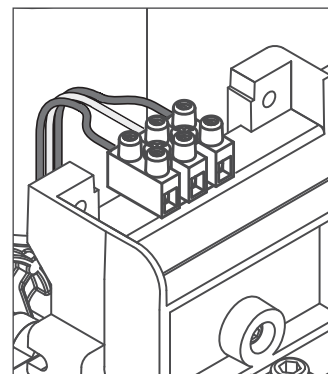

Fig.26
**PRETTY.B** has a terminal board with 3 contacts to be connected to the extractable orange terminal board M2 of the CP.PTY control unit as indicated successively (fig. 26).